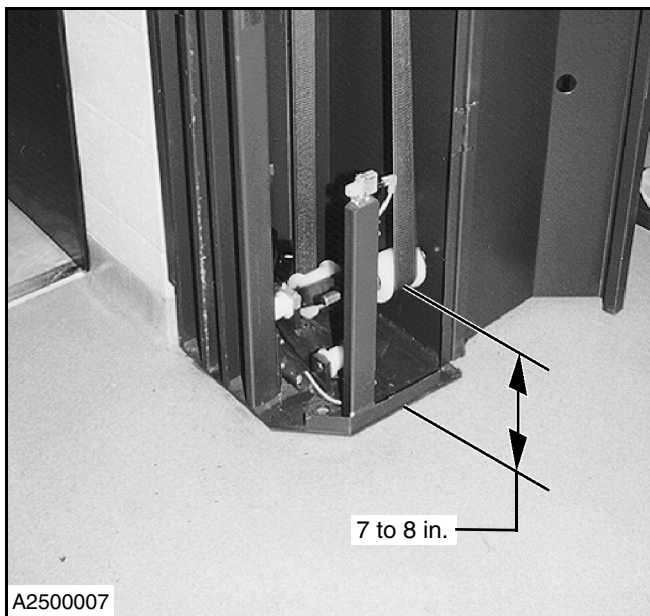

Figure 58
5. Raise and block the front H-bracket roller approximately 7 to 8 in. off the bottom of the side column. (See Figure 58.)
8. Pull the tension strap through the end bracket strap clamps, as required, to position the front H-bracket roller as shown in Figure 58.